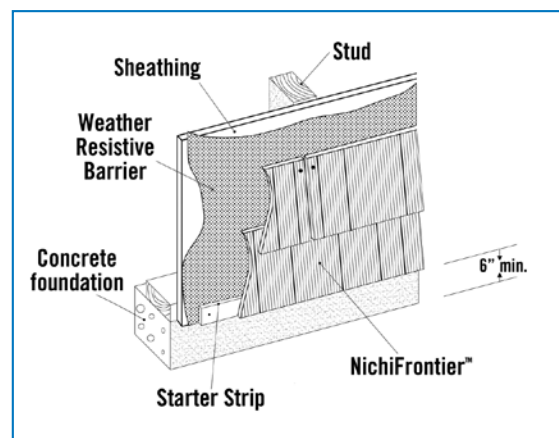

Fig. 9.2
- A starter strip is required to set the first course on the proper angle and to create the drip edge at the bottom course of siding. The starter strip material may be a cut piece of Frontier, NichiBoard, PVC, or pressure treated lumber. Do not use untreated lumber, plywood, OSB or other engineered wood products as a starter strip. (Fig. 9.2)